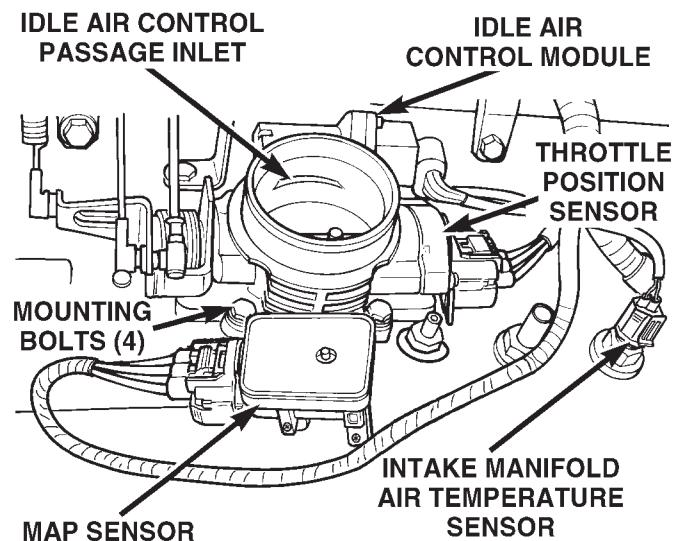
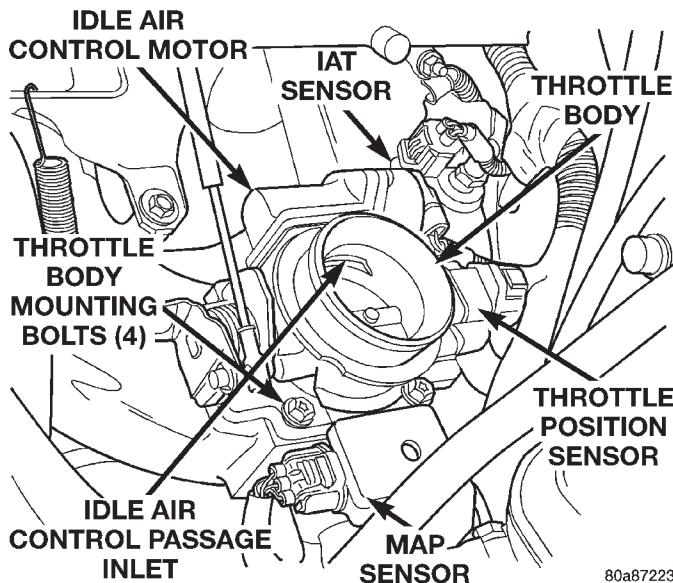
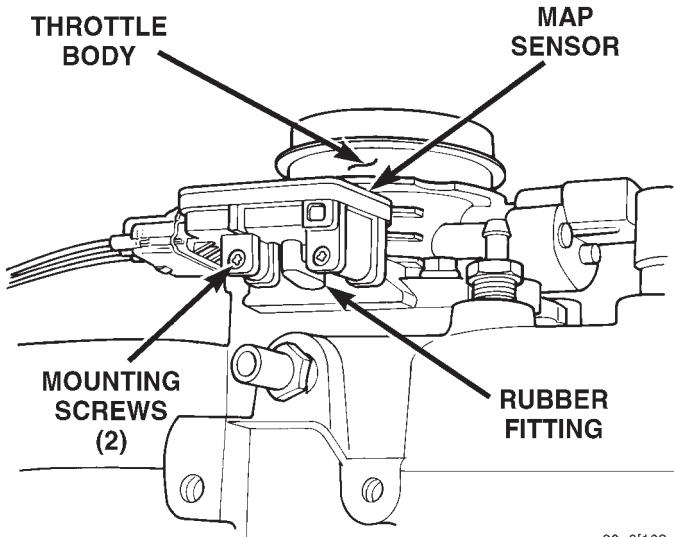

Fig. 37 Throttle Body and Sensor Locations—4.0L Engine
Fig. 38 Throttle Body and Sensor Locations—2.5L Engine
Fig. 42 MAP Sensor Mounting
- (1) Remove air cleaner tube at throttle body.
- (2) Disconnect throttle body electrical connectors at MAP sensor, IAC motor and TPS (Fig. 37) or (Fig. 38).
The TPS is mounted to the throttle body (Fig. 37) or (Fig. 38).
The IAC motor is located on the side of the throttle body (Fig. 37) or (Fig. 38).
The MAP sensor is mounted to the side of the throttle body (Fig. 37) or (Fig. 38). An L-shaped rubber fitting is used to connect the MAP sensor to throttle body (Fig. 42).
- (1) Remove air cleaner intake tube at throttle body.
- (2) Remove two MAP sensor mounting bolts (screws) (Fig. 42).
- (3) While removing MAP sensor, slide the rubber L-shaped fitting (Fig. 42) from throttle body.
- (4) Remove rubber L-shaped fitting from MAP sensor.